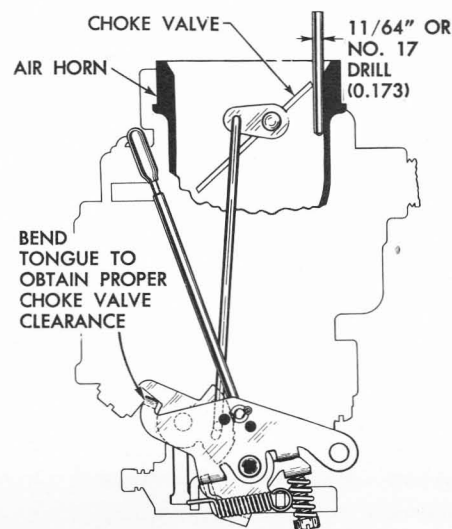

Figure 3-73—Stromberg Choke Unloader Adjustment
pressing accelerator pedal to the full extent of its travel. This causes a tongue or arm on the throttle lever to contact and rotate the fast idle cam, which forces the choke valve open. See figure 3-73.
10. Check the clearance between wall of air horn and the center of upper edge of choke valve. The clearance should be 0.173", and may be measured with a No. 17 or 11/64" drill. See figure 3-73.